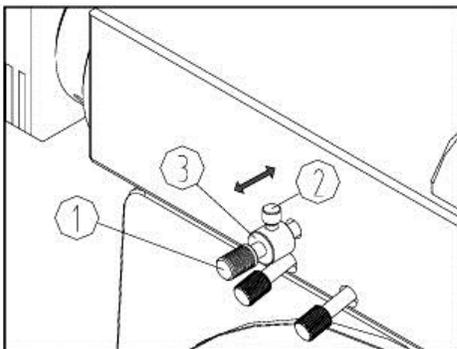

Fig. 24
Adjusting the Oblique Illumination - Reflected Illumination (Fig. 24)
To adjust the limit block for various specimen requirements, loosen the lock screw ② on the limit block ③, then move the limit block according to the direction shown in Fig. 24 and tighten the lock screw when adjusted to the appropriate position.